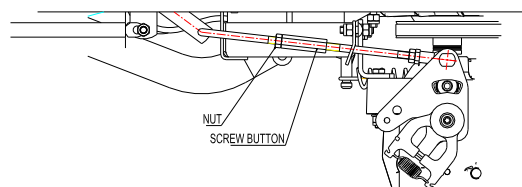

FIG 10 LH Pump Adjustment
- e) Place the left motion control lever to the neutral position. Loosen the lock nut on the lever. Rotate the turnbuckle in the middle of the lever to adjust the length of left hydrostatic transaxle in proper way until the wheel stops. Pull the lever slightly when it's in the neutral position. The motion control lever will rebound to the neutral position by the reaction power of spring. The wheels will stop to run or turn back slightly. After doing this, tighten the lock nut. See FIG 10.